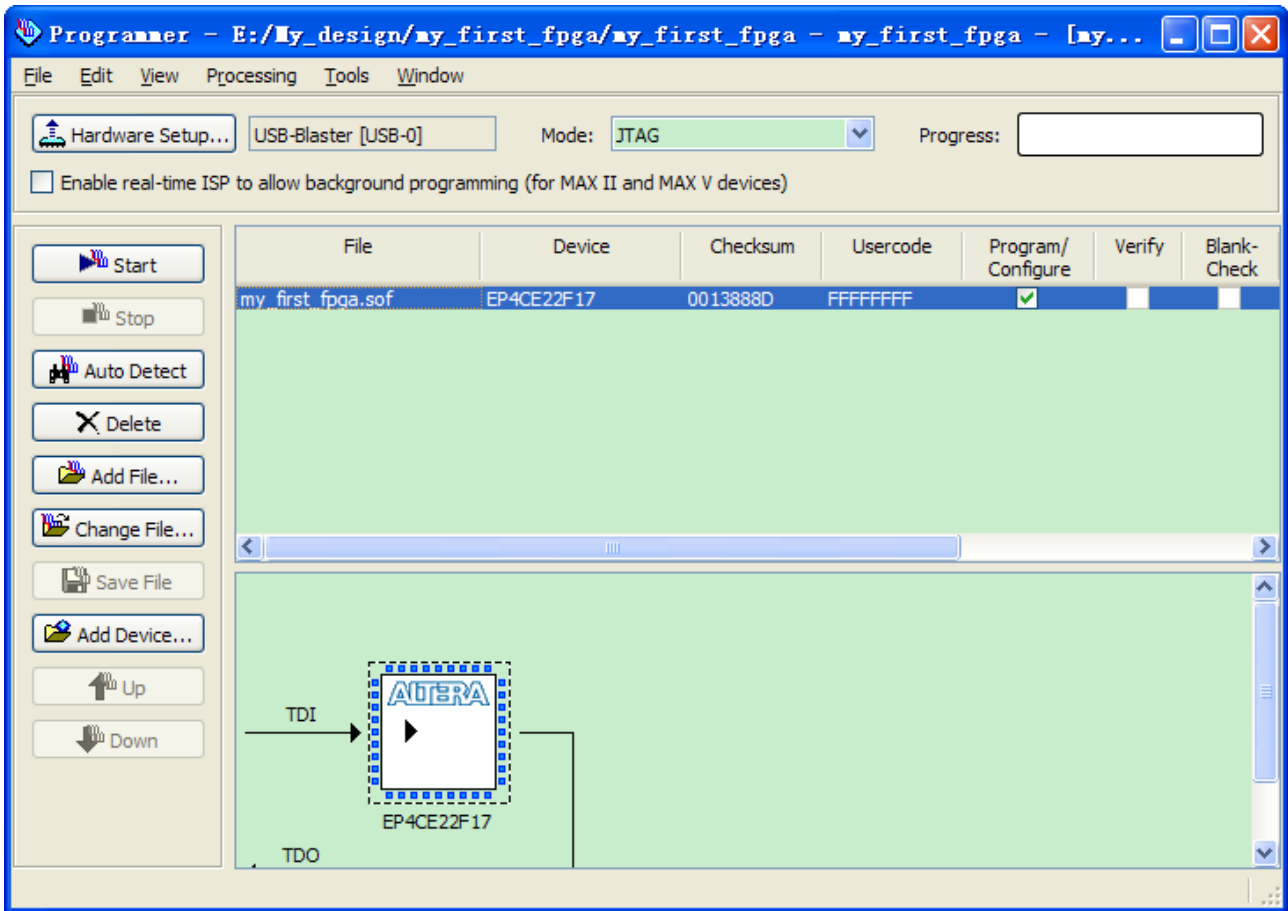

Figure 6-46 Programmer Window
1. Choose Tools > Programmer. The Programmer window opens. See **Figure 6-46**.